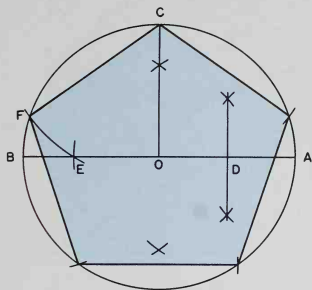

Fig. 6-3. Construction of a pentagon.
1. Draw a circle equal to the size of pentagon desired, Fig. 6-3.